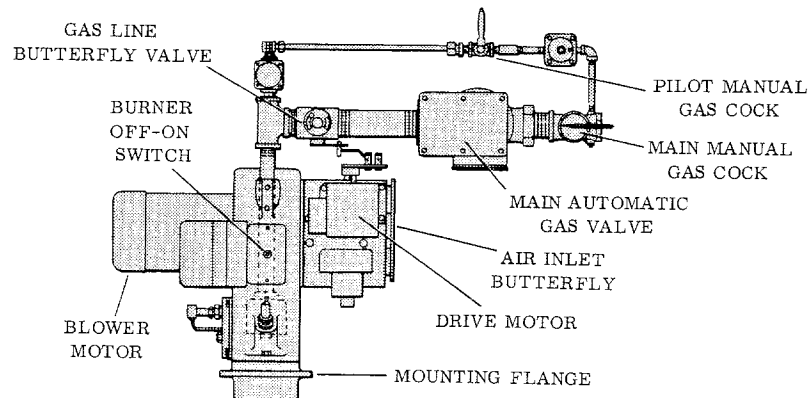

FIGURE 4
- ##### 4.2 HI-LOW Burner (200 GP-A) (Refer Figure 4).